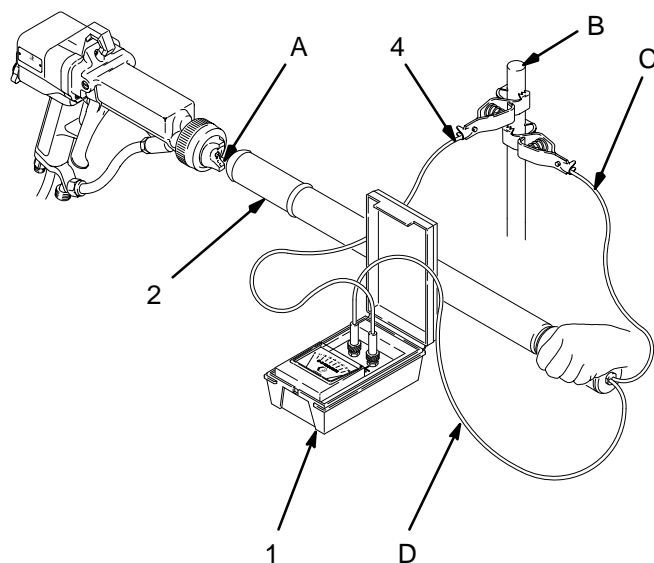

Fig. 1
1. Connect the probe's red wire (D) to the KV Meter and its green/yellow ground wire (C) to a true earth ground (B). See Fig. 1.
2. Connect the KV Meter's green/yellow ground wire (4) between the KV Meter (1) ground connection and a true earth ground (B).
3. Holding onto the probe (2) handle, touch the end of the probe to the spray gun electrode (A). Move the end of the probe slightly until the maximum KV reading is obtained.
4. Read the voltage on the KV Meter (1). See the typical readings table, below, for your gun model.